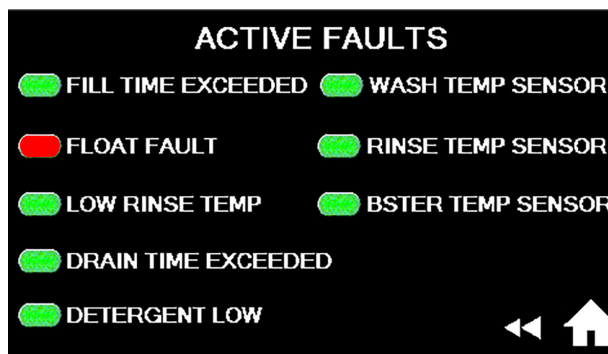

Fig. 56- ACTIVE FAULTS screen
2. A green light indicates no fault, a red light indicates a fault is active, (Fig. 56).